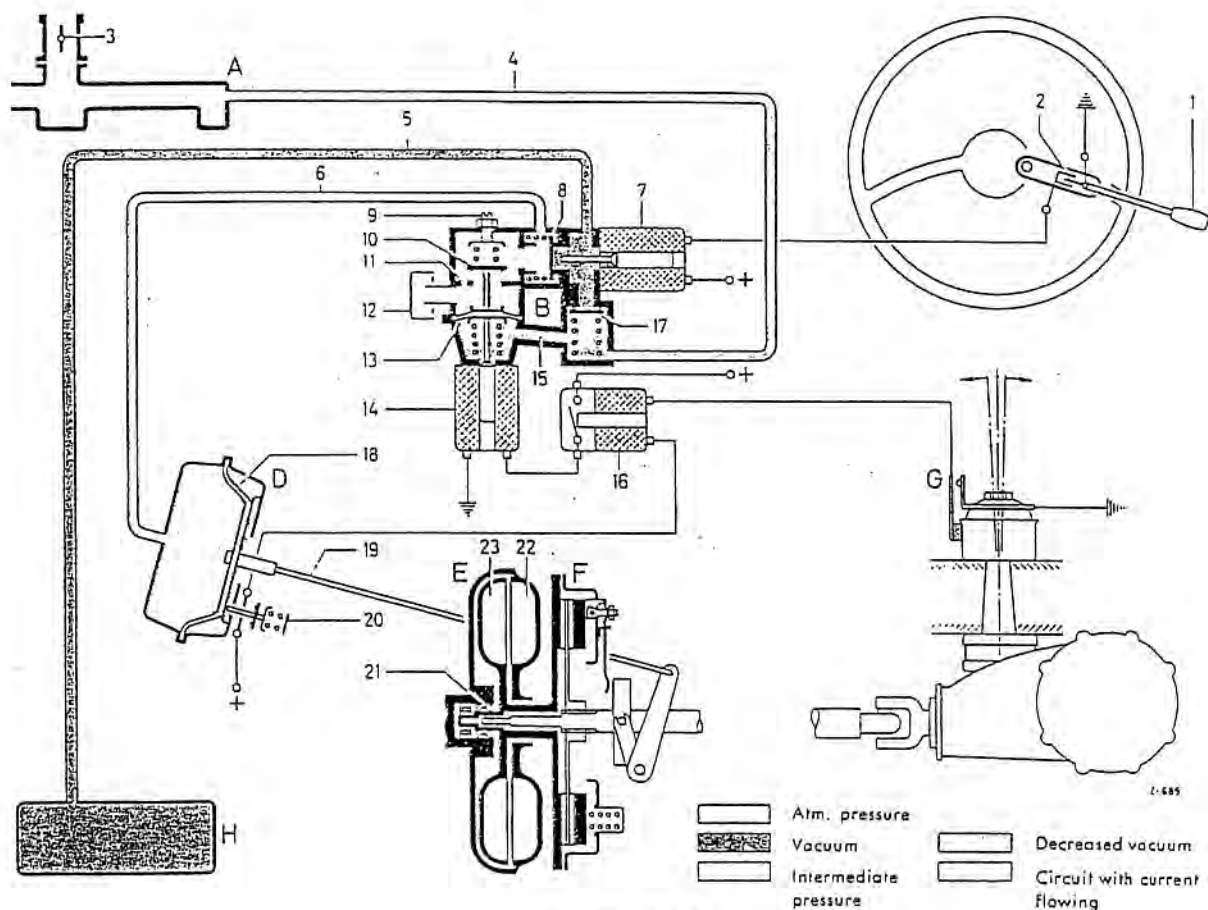

Fig. 25-10/19
magnet (7) is interrupted and thus the control valve (8) of the servo assembly (D) is cut off from the intake manifold of the engine and / or from the vacuum supply reservoir (Fig. 25-10/19). The canal to the reducing valve is once more opened up.